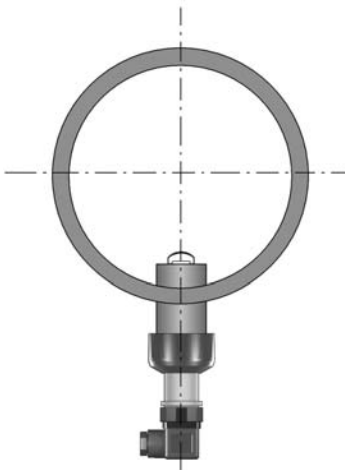

Fig. 1
- Fig. 1: installation with no sediments present